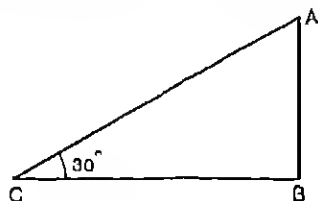

FIG. 99.  $\cos 30^\circ = \frac{CB}{CA}$
**I. Introduction.**—Cosine may be introduced by further study of similar, right-angled, triangles, Fig. 99. As a rule, little